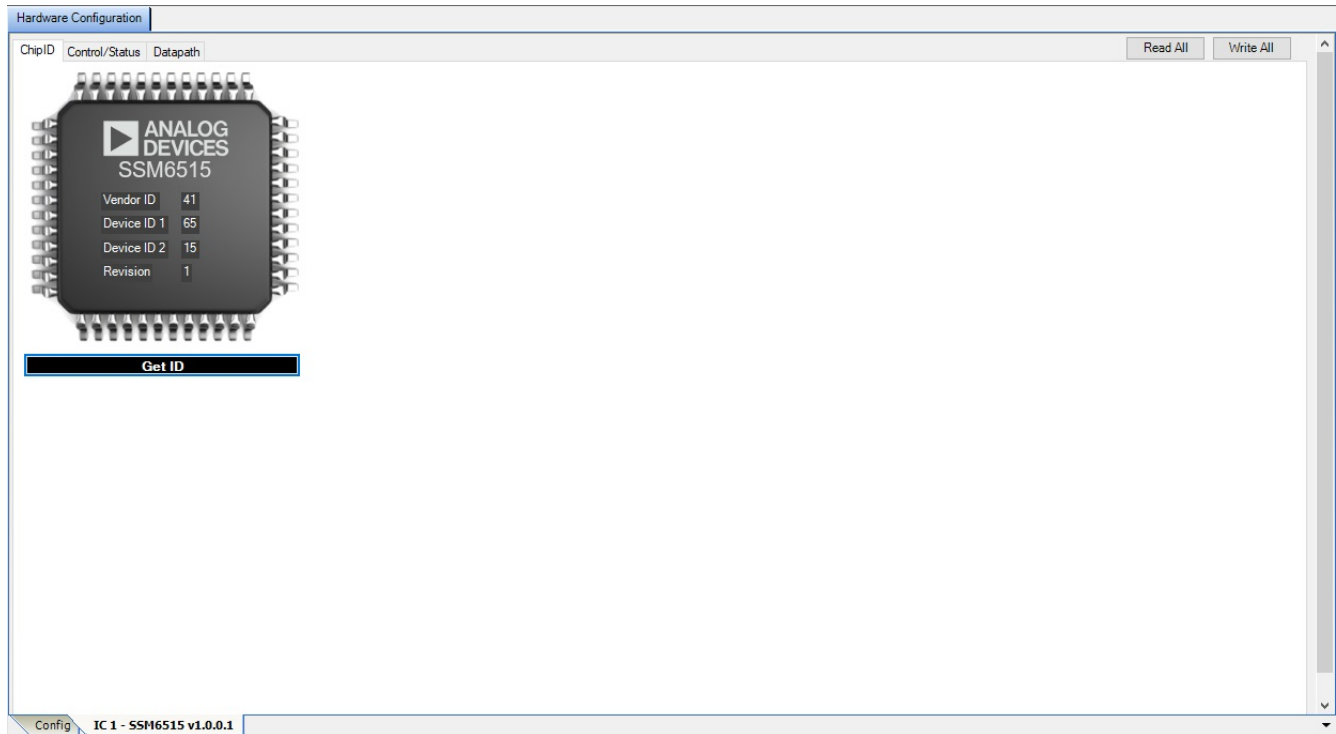

Figure 21. ChipID Tab
1. In the **Hardware Configuration** tab, click the **IC 1 - SSM6515 v1.0.0.1** tab, then click the **ChipID** tab (see Figure 21). Click **Get ID** to read the device ID and revision.